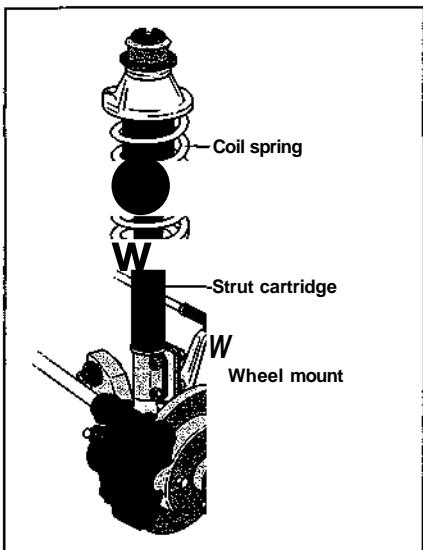

Figure 11-4:
- **MacPherson strut suspension:** There are two types of strut suspensions: *conventional* and *modified* (see Figures 11-4 and 11-5). Conventional struts have the coil spring wrapped around the strut cartridge, and modified strut suspensions have a remotely mounted spring. Strut suspensions use no upper control arm. The upper strut mount is what holds the wheel in place.